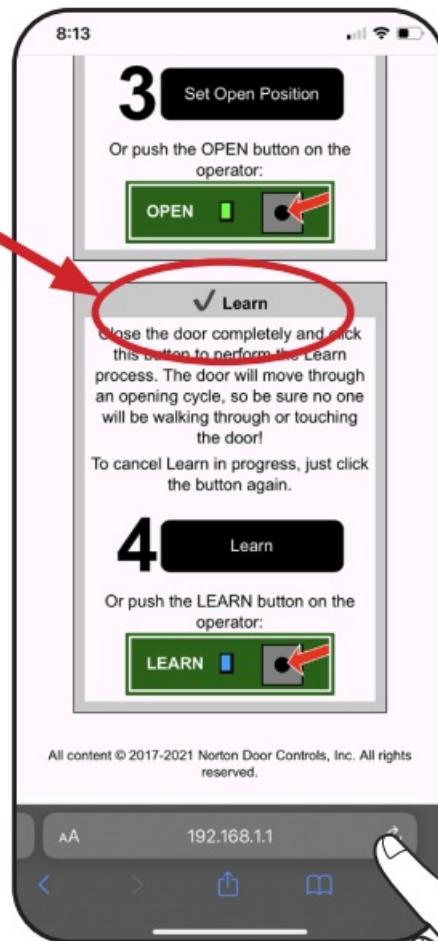

Figure 18
4. Refresh browser page to confirm all steps have ✓ indicating setup has been successful. (Figure 18)